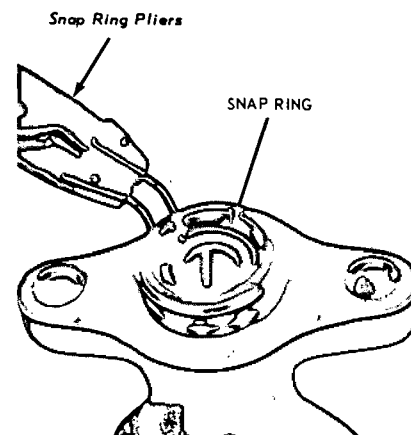

FIG. 18—Removing Snap Ring—Typical
4. Depress the primary piston and remove the snap ring from the retaining groove at the rear of the master cylinder bore (Fig. 18). Remove the push rod and the primary piston assembly from the master cylinder bore. **Do not remove the screw that retains the primary return spring retainer, return spring, primary cup and protector on the primary piston. This assembly is factory pre-adjusted and should not be disassembled.**